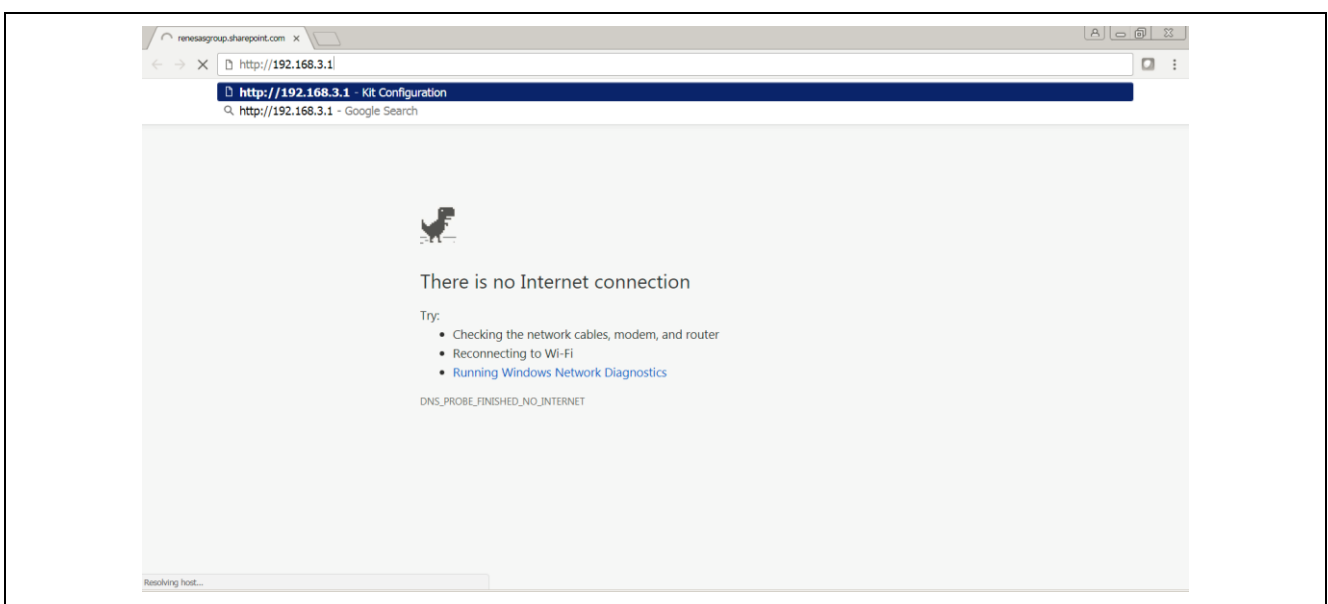

Figure 10 Enter Sensor Panel Wireless Cardinal
Step 7. Open internet browser and type “http://192.168.3.1” in address line as shown in Figure 10. Then, press “Enter” key.